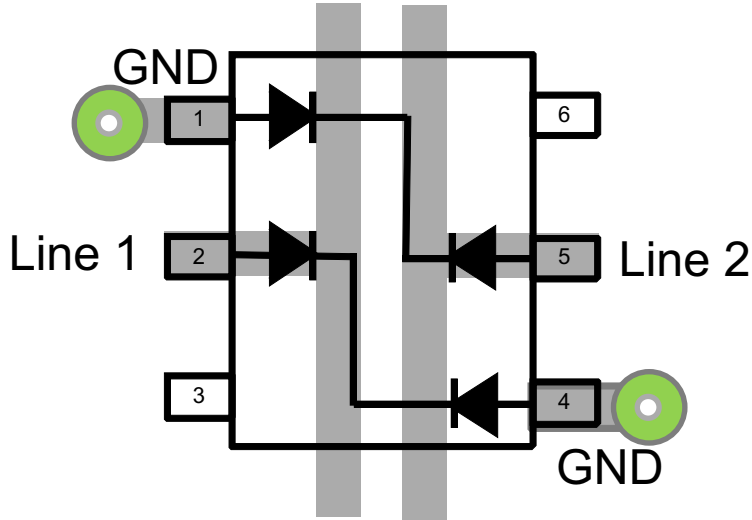
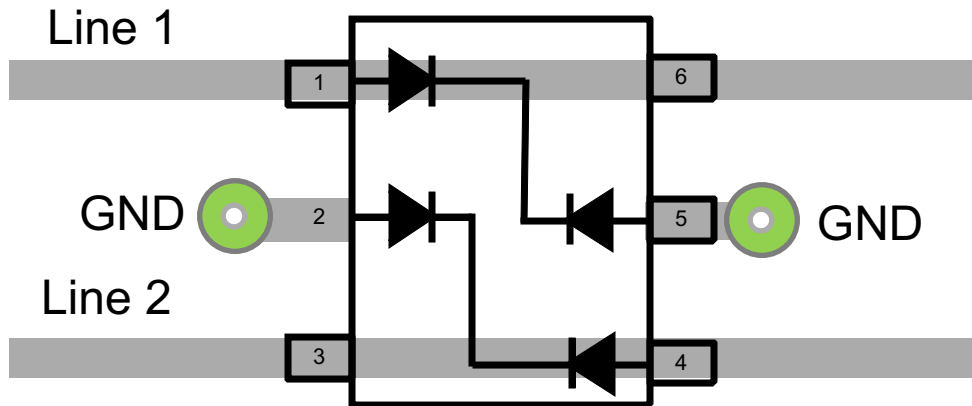

Figure 2. Routing Option 1
Figure 3. Routing Option 2
(1) Using Routing Option 1 or 2 as shown in Figure 2 or Figure 3.
- (1) Transmission line pulse with rise time 10ns and pulse width 100ns.
- (2) $T_A = 25^\circ\text{C}$
- (3) Using Routing Option 1, Figure 2.
- (4) Using Routing Option 2, Figure 3.